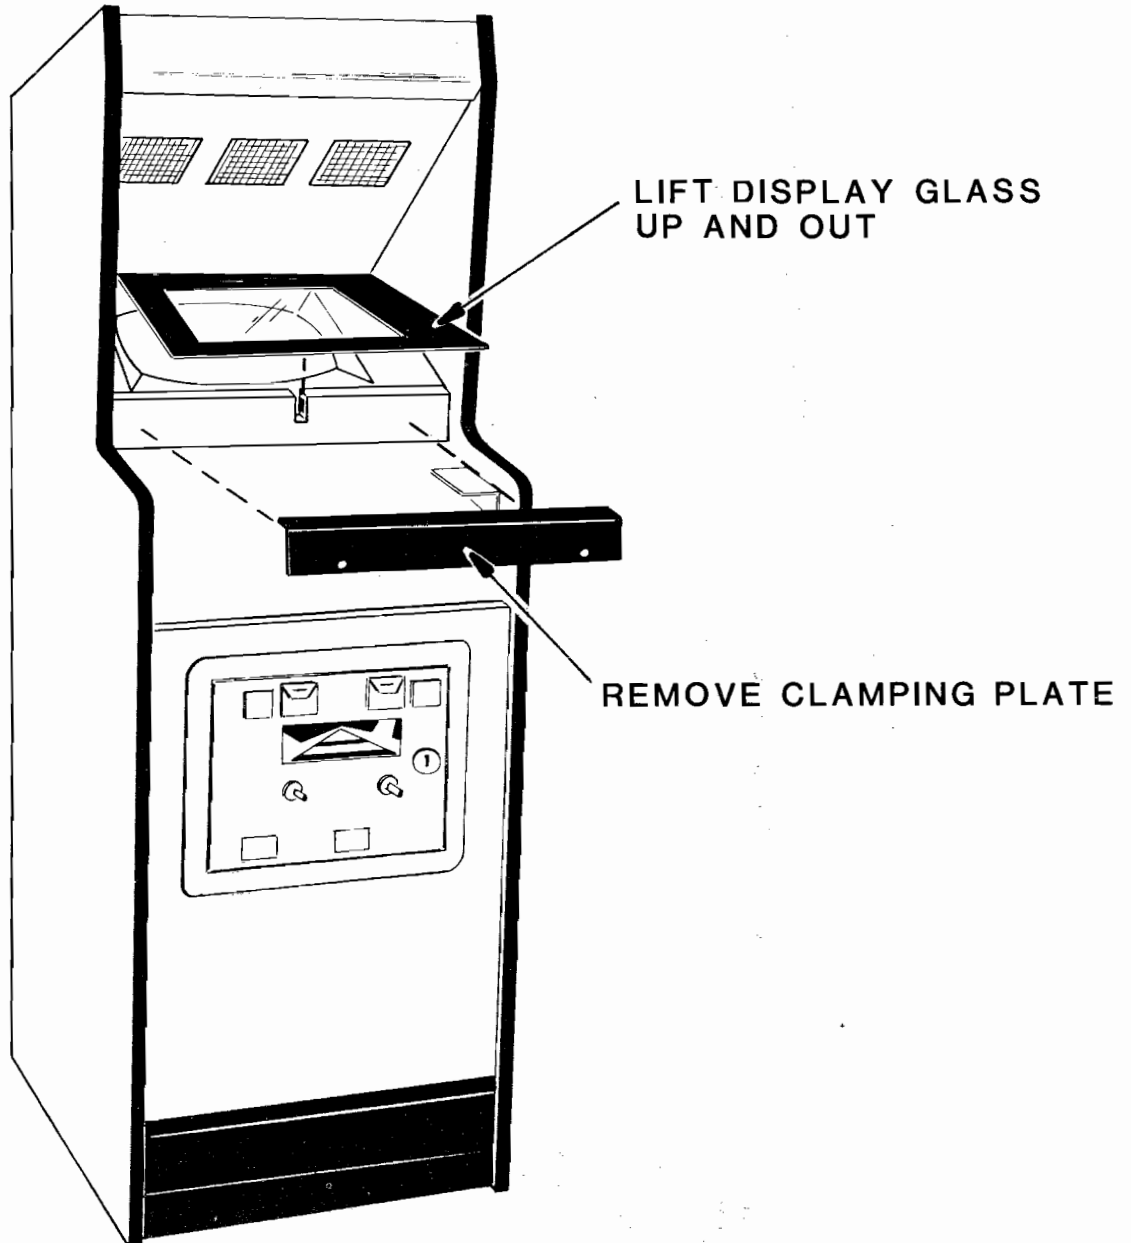

FIG. 17
- e. Remove the screws which secure the T.V. bezel assembly, see Figure 17, and lift it out.